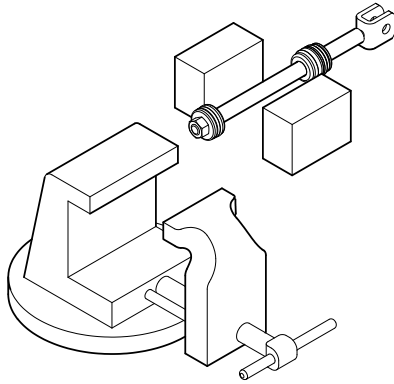

Figure 5-5, Cylinder Shaft
6. Clamp the rod assembly in a soft jawed vise on the wrench flats, **not on the rod surface**. If the rod does not have wrench flats use two pieces of wood on both sides of the rod to prevent scarring. (Figure 5-5)